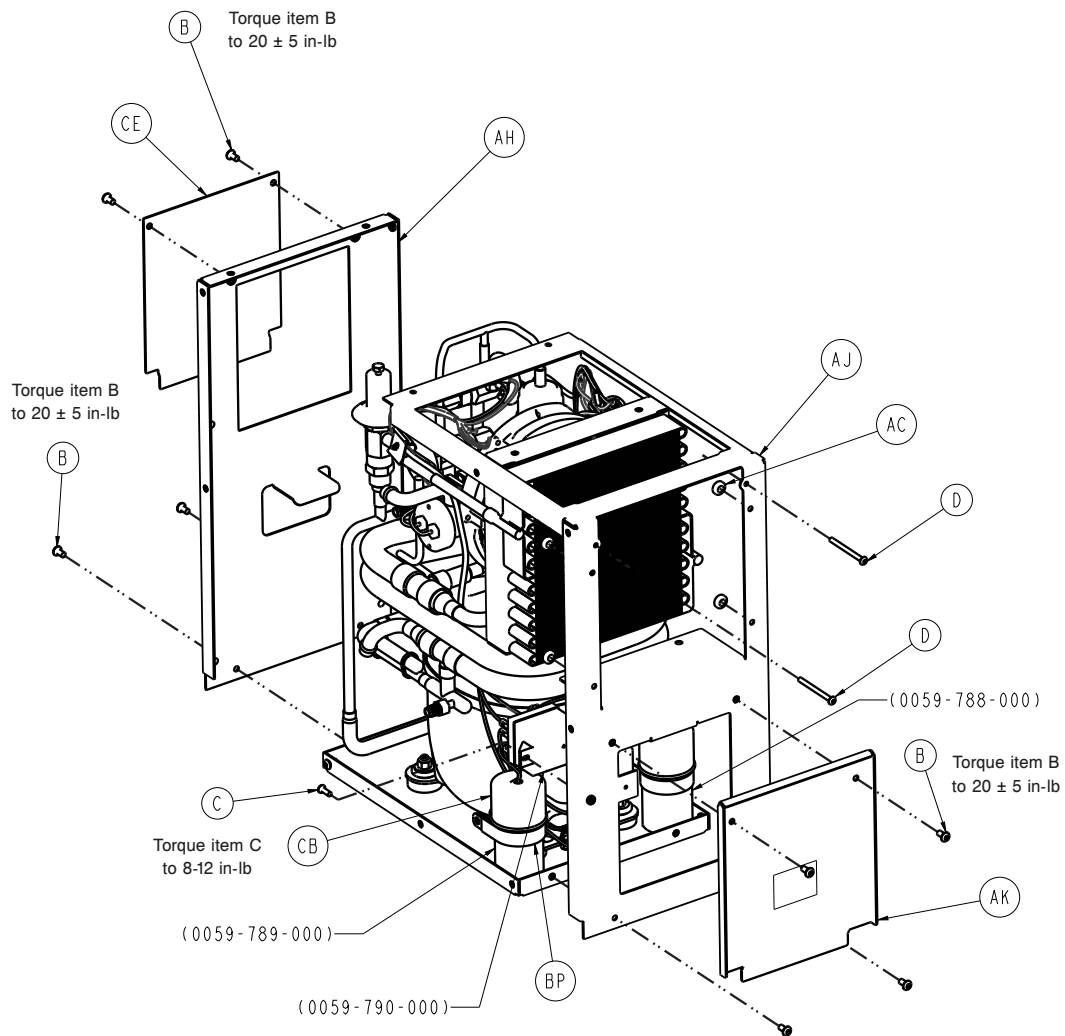

Figure 27 – Access panel
4. Using a T25 Torx driver, remove the two screws that secure the access panel (CE) to the front support (AH) (Figure 27). Save the screws.